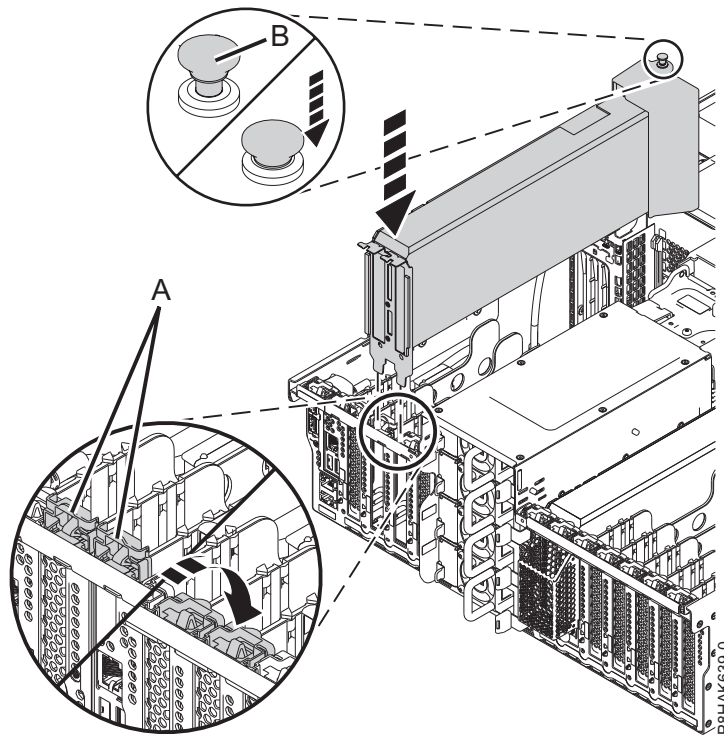

Figure 42. Installing or replacing the GPU adapter PCIe adapter in a rack-mounted system
- a. If the adapter latch (A) at the target slot is not already in the open position, pull the latch into the open position by rotating the latch outwards from its clip on the back of the system, as shown in Figure 42 on page 45.
- d. Rotate the adapter latch (A) and press the latch (B) on the air baffle to lock in place, as shown in Figure 42 on page 45.